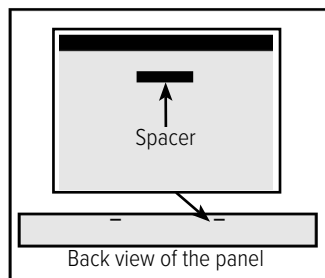

Figure 2.4.2
2.4.2 A spacer is glued on the back of the hand rail panel for each reveal to rest on when installed. The spacer is approximately 1" below the top edge of the hand rail panel so the end of the reveal is not visible as shown in Figure 2.4.2.